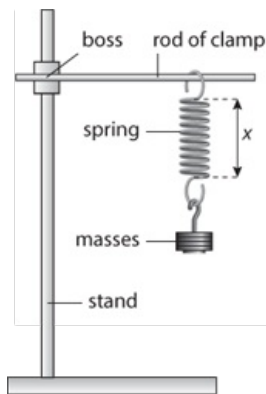

Figure 1.3: Spring suspended from rod with weights.
Attach 500 g from the bottom of the spring as shown in Figure 1.3.
- 3 Measure the length of the coiled section x of the extended spring as shown in Figure 1.3 and write your answer in the Results section.